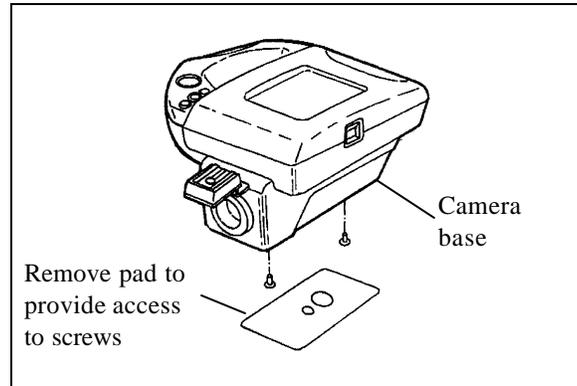

Figure 4- 9 Removal of the camera base assembly
1. Remove the bottom cover pad from around the tripod mount by peeling it free of the bottom cover. (Figure 4- 9)